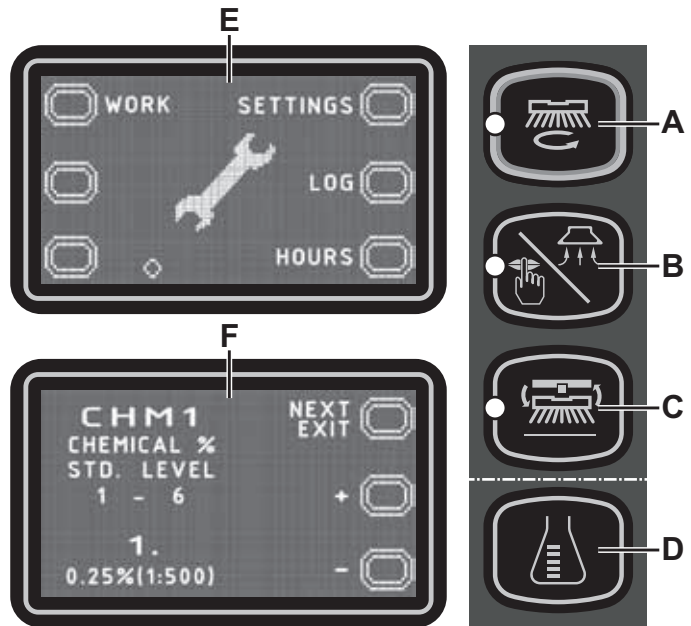

Figure 7
Main Screen (E, Fig. 7)
To return to the main screen (E, Fig. 7), press push-button (A) repeatedly.
To return to the main screen (E, Fig. 7), press push-button (A).